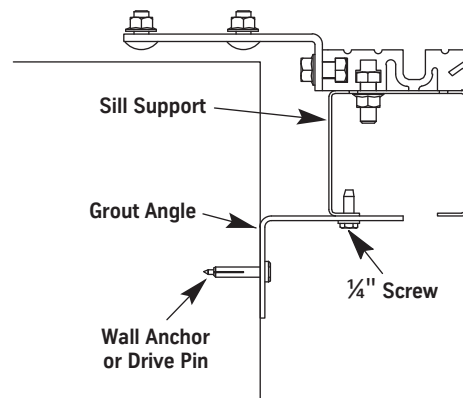

Figure 59 - Grout Angle Installation
1. Use self-tapping screws to install the grout angle on the bottom of the sill support and also tight against the hoistway wall. See Figure 59.